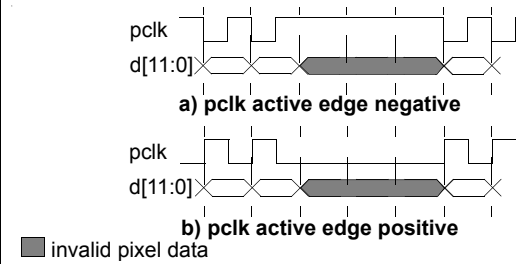

Figure 38. pclk in Data Ready Mode
- In data ready mode, the pixel clock output pin (*pclk*) will produce a pulse with a specified level every time valid pixel data appears on the digital video bus $d[11:0]$ as shown in Figure 38.